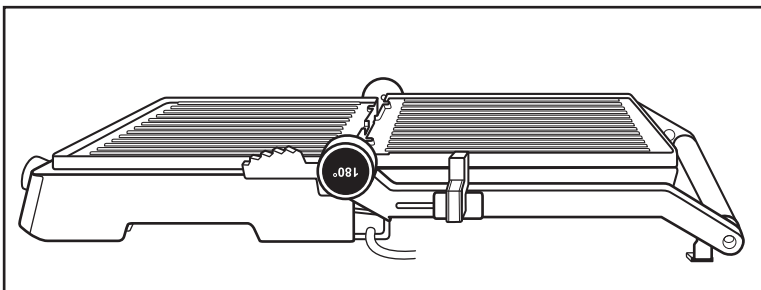

Fig. 2
- 3) The hotplates ❷ are now positioned next to each other and can be used as a table grill (Fig. 2).